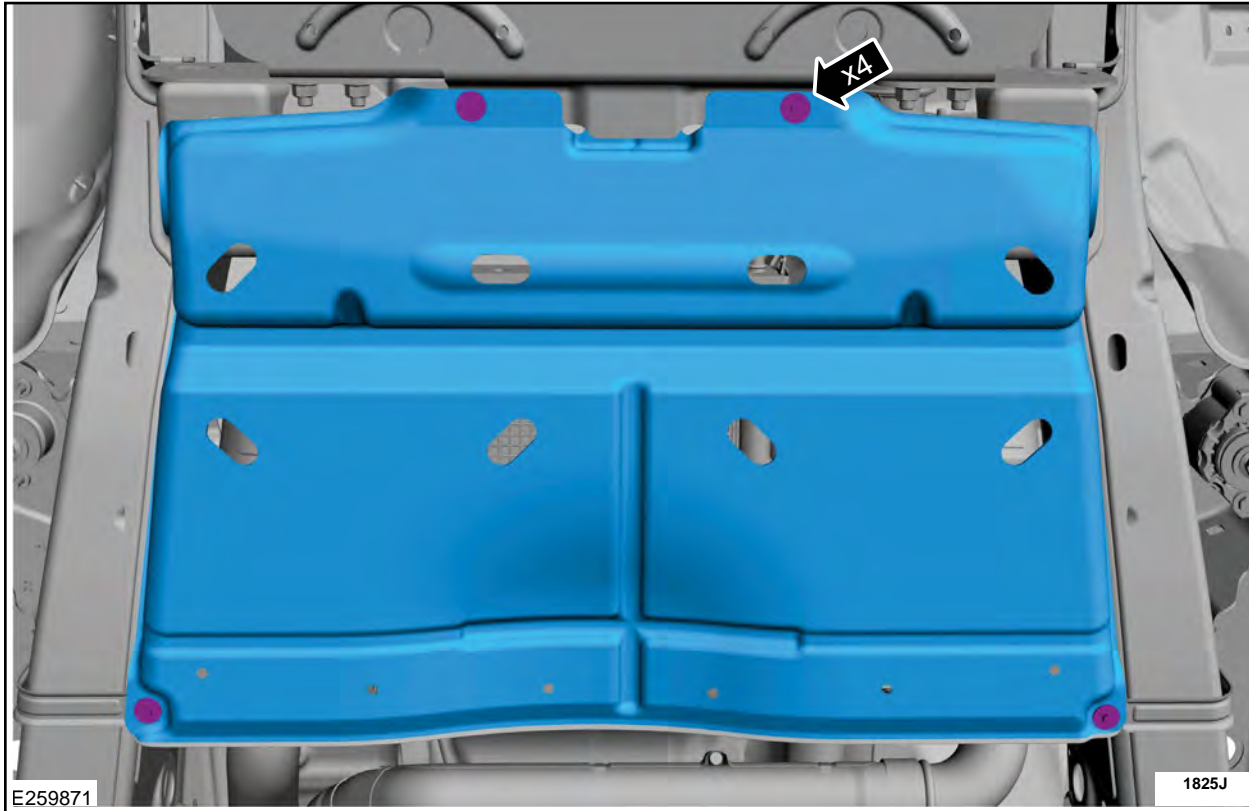

FIGURE 14
30. If equipped remove the retainers and remove the transmission housing cover. See Figure 14.